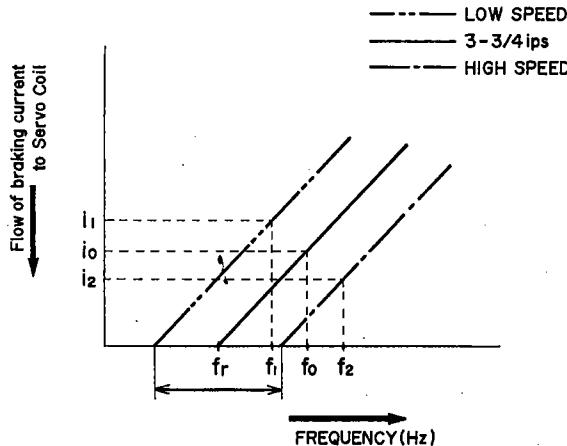

Fig. 36
6. In case of the capstan motor revolutions having reached the speed of n_2 , the detector signal produced at the detector coil surpasses f_o and advances toward the higher f_2 frequency. (See Figs. 36 & 37) Accordingly, the flow of current to the servo coil increases, and because the electro-magnetic braking supplied to the capstan motor is increased, the capstan motor revolutions become slower, and normal revolutions are regained.
7. In case of the capstan motor revolutions having slowed to n_1 , the detector signal produced at the detector coil drops to lower than f_o and descends toward the low f_1 frequency (See Figs. 36 & 37). Accordingly, the flow of current to the servo coil decreases, and because the electro-magnetic braking supplied to the capstan motor is decreased, the capstan motor revolutions speed up and normal revolutions are regained.
As shown in Fig. 36, resonance frequency f_r (between the arrow mark) is changed by adjusting the dust core of discriminator coil L1 (VI2031SC-01). Accordingly, f_o is also changed between f_1 and f_2 , and the flow of braking current (i_o) to the servo coil is also changed between i_1 and i_2 . Consequently, correct tape speed can be attained by using a tape speed measuring tape and a Frequency Counter and adjusting the dust core of coil L1.